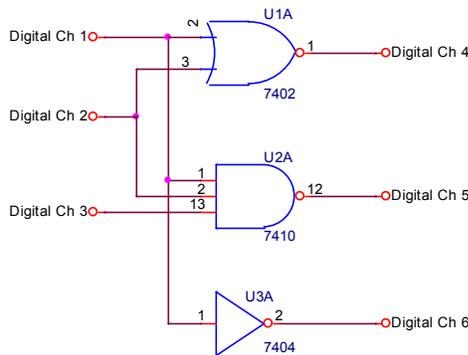

Figure A-3.
- Wire the circuits in Figure A-3 on your protoboard. Do not forget to tie pin 14 to +Vcc (4V or 5V) and pin 7 to 0V (GND) on each chip. (Also note that the 74107 chip and the 7410 chip in your kit are not the same chip. We want the 7410 here.)